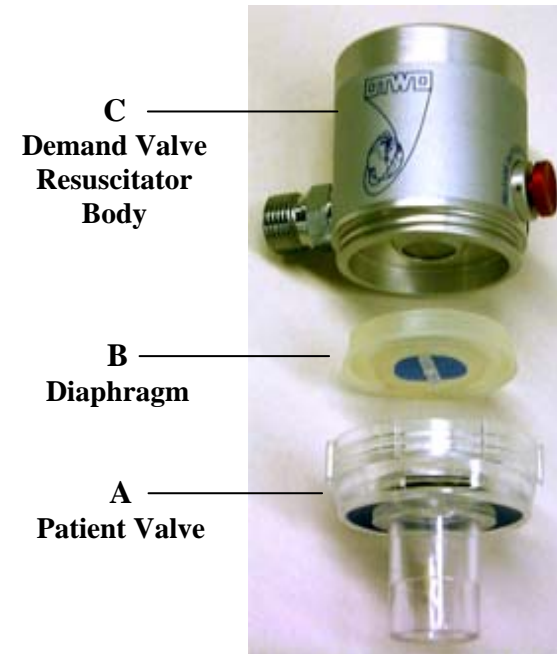

Fig. 1.
5. **Unscrew patient valve (a) from the unit body being careful to ensure that the diaphragm (b) is retained. (fig. 1)**